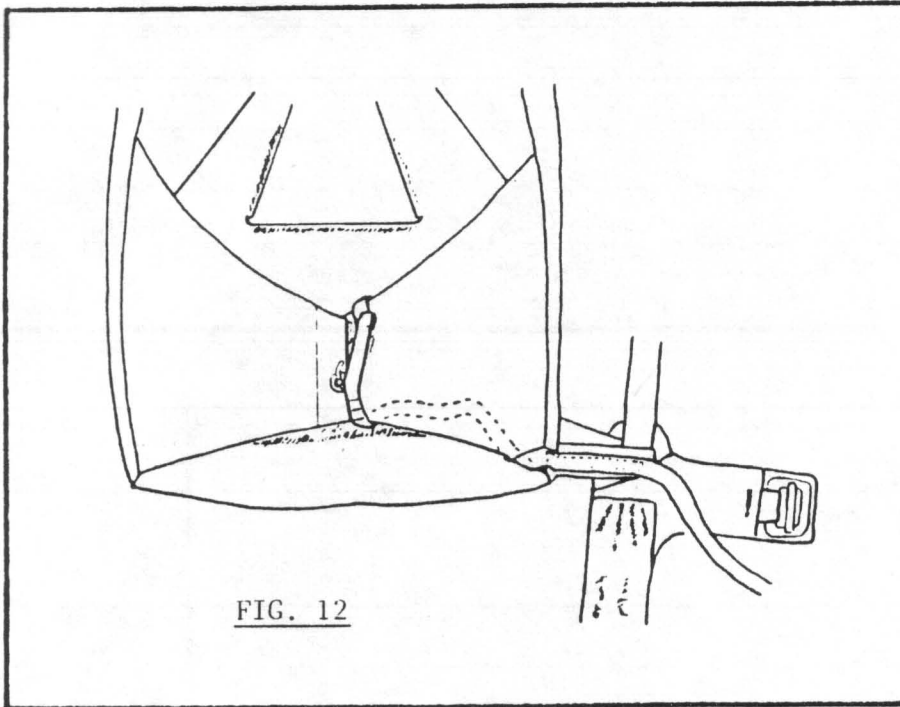

FIG. 12
- 13) Mate the velcro on the bridle to the velcro on the lower right side of the main container and harness-lateral. The excess bridle between this velcro and the curved pin should now be tucked under the right side flap (FIG. 12).